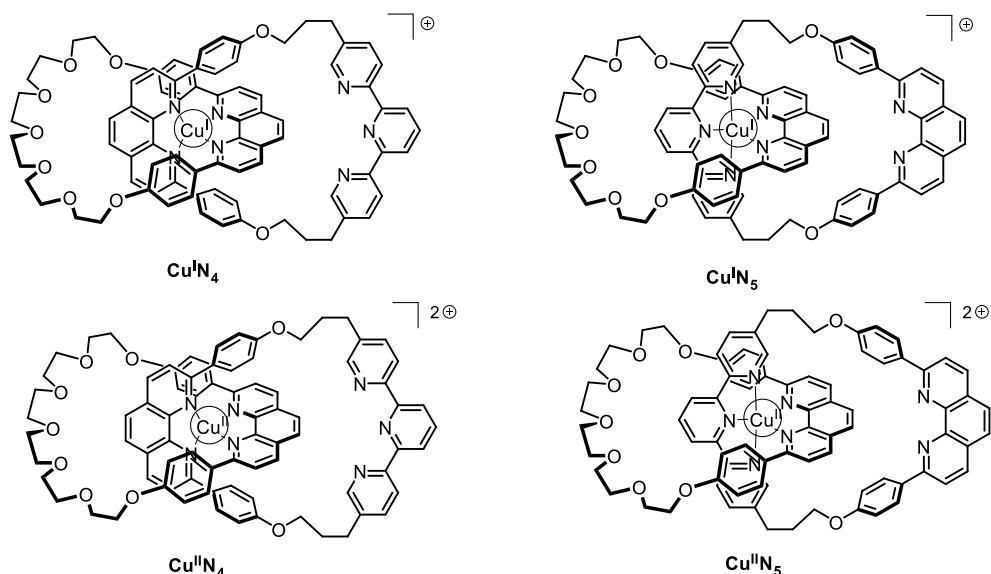

Fig. 2 – [2]catenane **L** states
11. **Fill** in the solid boxes by identifying the complexes involved from Fig. 2 (*i.e.* $\text{Cu}^{\text{II}}\text{N}_4$, $\text{Cu}^{\text{I}}\text{N}_5$ and $\text{Cu}^{\text{II}}\text{N}_5$) and **complete** the sequence to achieve electrochemical control of the system using the following notation for the dashed boxes:  (rotation); $+e^-$; $-e^-$.